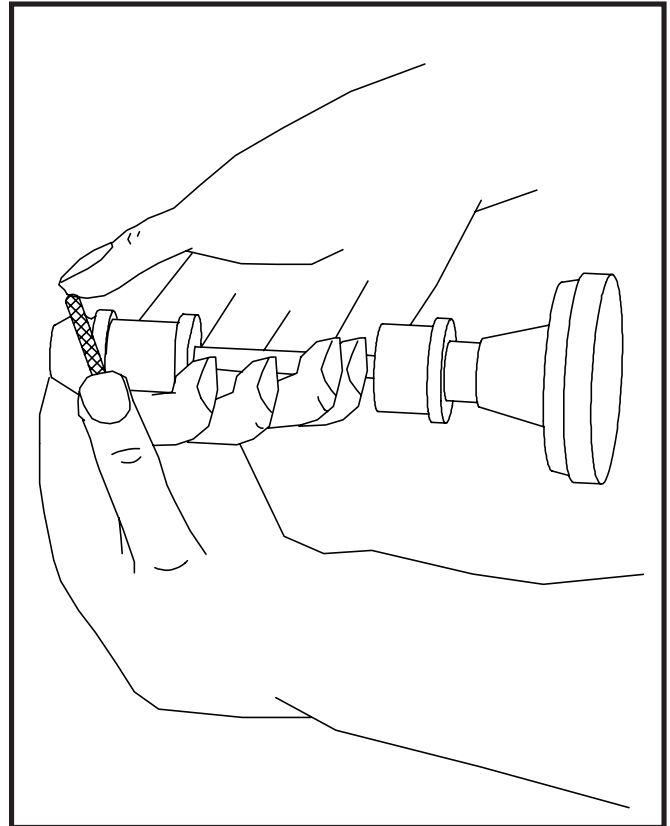
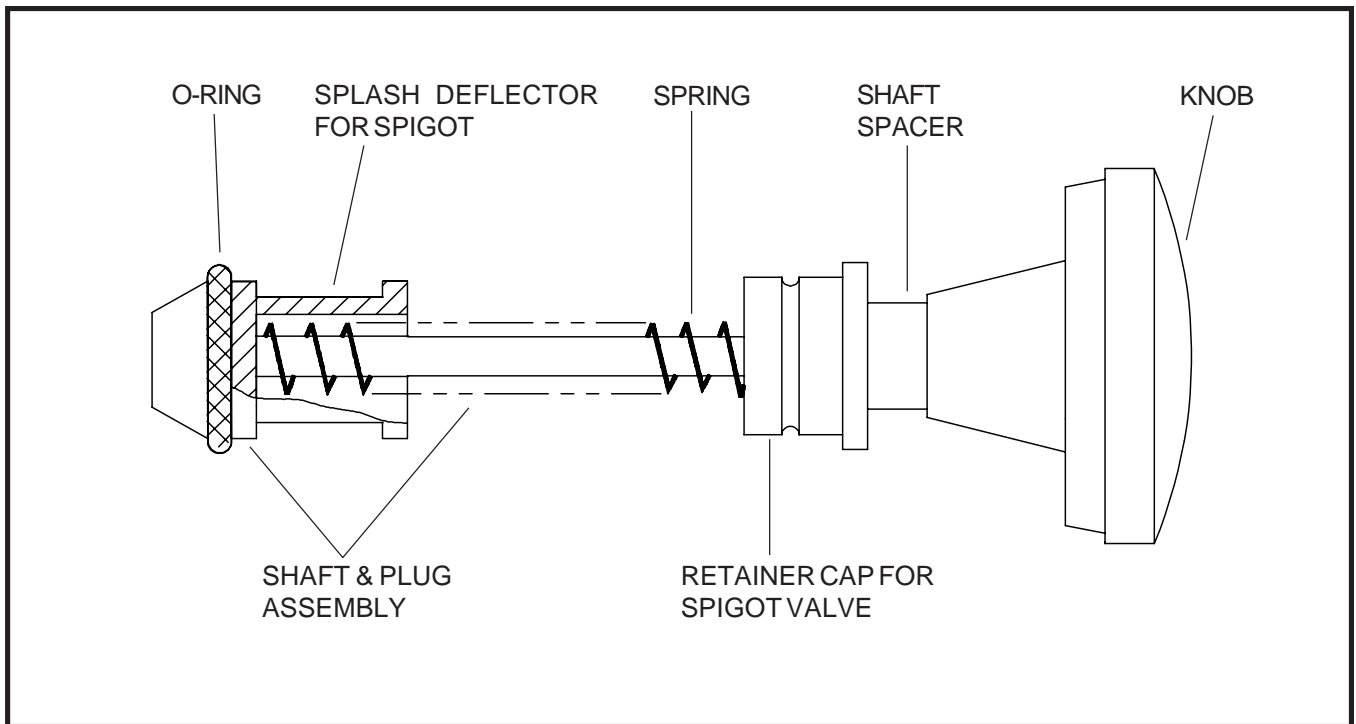

Figure 16
Figure 17
1. With a clean, dry towel, wipe excess lubricant from the spigot assembly and O-ring. Firmly grasp the spigot assembly with both hands and squeeze the O-ring upward (Fig 16). When a loop is formed, roll the O-ring out of the groove toward the end of the spigot assembly. (See Fig. 17 for a cutaway view of the spigot assembly.)